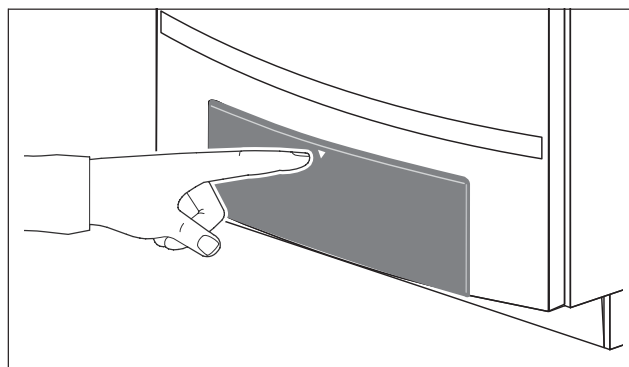
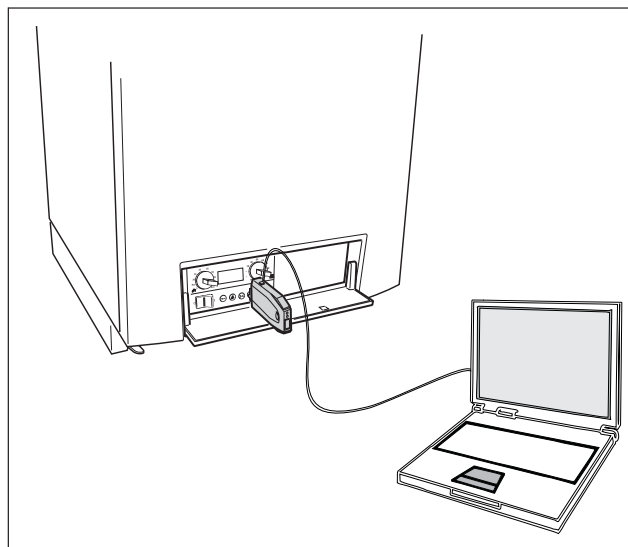
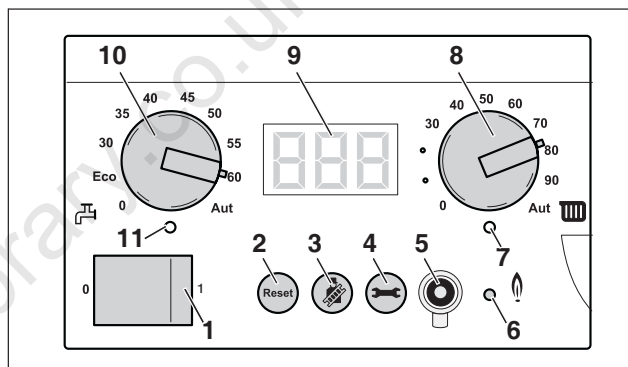

fig. 67 Opening the control panel
fig. 70 Service tool connected to the boiler
fig. 71 BC10 basic controller
- Push on the control panel to open it (fig. 67).
For effective and quicker fault finding, analysis and correction, the Service Tool (fig. 70) can be connected to the boiler via the service connector (fig. 71, **item 5**).
- Push the control panel to open it and remove the service connector cover (see fig. 67, page 49 and fig. 71, **item 5**).
The "Burner" (On/Off) LED (fig. 71, **item 6**) lights up when the burner of the boiler is active and it is extinguished when the burner is switched off.
The "Heat demand" LED (fig. 71, **item 7**) lights up when the control system has made a heat demand and it is extinguished when this heat demand is no longer required.
The maximum CH flow temperature dial (fig. 71, **item 8**) is used to set the upper CH flow temperature limit. The unit is °C.
The heating system display values, display settings and display codes can be read out from the display (fig. 71, **item 9**).
The DHW temperature dial (fig. 71, **item 10**) is used to select the required temperature of the hot water in the hot water cylinder. The unit is °C. See table 17, page 72.